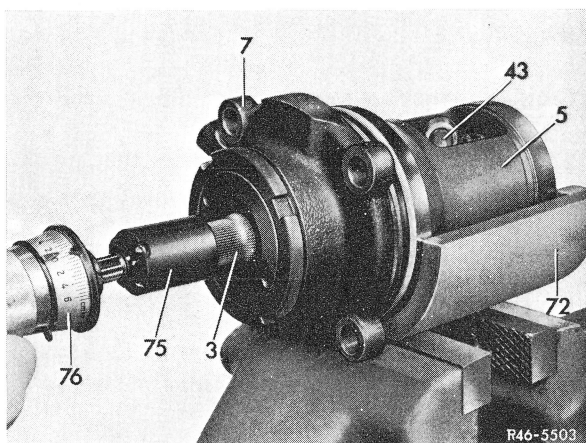

Fig. 20
20 The friction torque can also be measured with torque wrench (76) (Fig. 20).